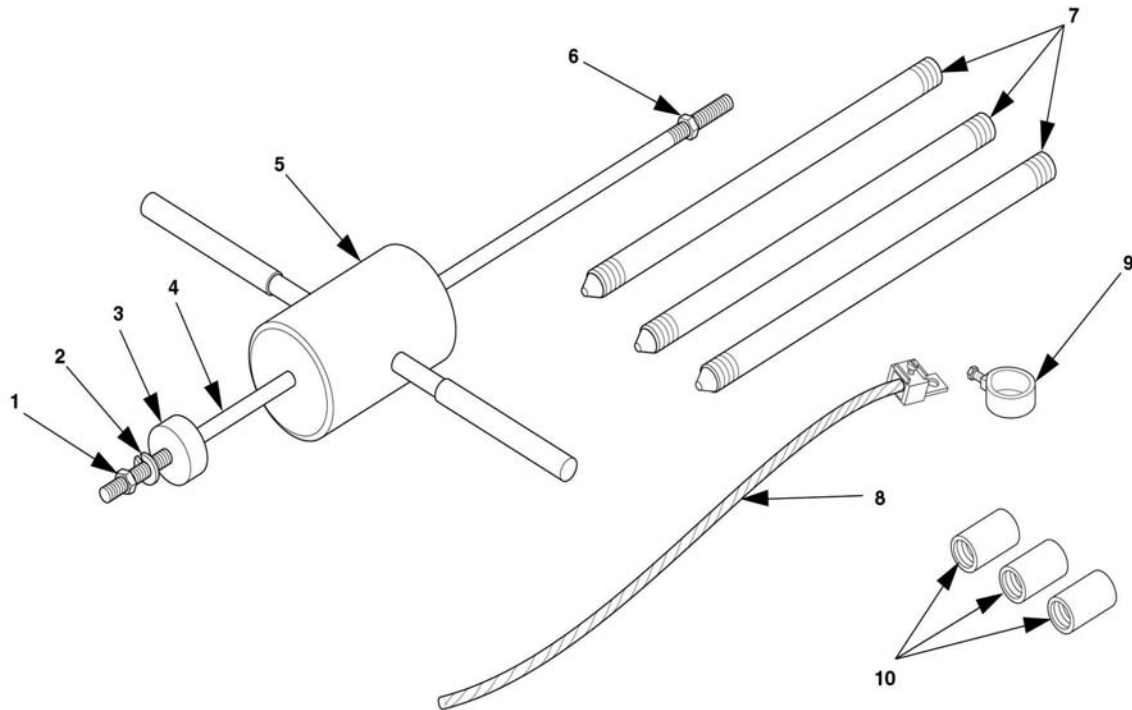

Figure 2-5. Ground Rod, Grounding Strap, and Slide Hammer.
- a. Remove ground rods, grounding straps, and slide hammer (figure 2-5) from accessory box. Perform assembly steps (1) through (4).
- (1) Install impact disk (3, figure 2-5) on rod (4). Tighten impact disk (3) to end of threads on rod (4).
- (2) Install lockwasher (2) and nut (1). Tighten nut (1) and lockwasher (2) securely against impact disk (3).
- (3) Remove nut (6) before positioning slide hammer.
- (4) Position slide hammer (5) on rod (4). Install nut (6) and tighten to end of threads on rod (4).
- b. Connect one ground rod coupler (10) to one section of ground rod (7) and screw slide hammer into coupler (10). Make sure that slide hammer rod (4) seats on ground rod (7).
- c. Drive ground rod into ground until coupler (10) is just above surface.
- d. Remove slide hammer assembly and install another section of ground rod (7).
- e. Install another coupler (10) and then the slide hammer assembly. Drive ground rod (7) down until new coupler (10) is just above ground surface.
- f. Repeat steps d and e until ground rod (7) has been driven eight feet or deeper, providing an effective ground.
- g. Connect clamp (9) and ground cable (8) to ground rod (7). Tighten clamp screw.
- h. Connect ground cable (8) as follows.
- (6) Insert ground cable (8) through slot of ground terminal (9) making sure that the ground wire from the generator remains in the slot.
- (7) Insert ground cable end into ground cable clamp (5) and tighten screw (6).
- i. Disassemble slide hammer (5, figure 2-5) as follows:
- (1) Remove nut (6) from end of rod (4) and retain.
- (2) Remove slide hammer (5) from rod (4) and thread nut (6) on end of rod to prevent loss.
- (3) Store slide hammer (5) and rod (4) with assembled parts in accessory box.